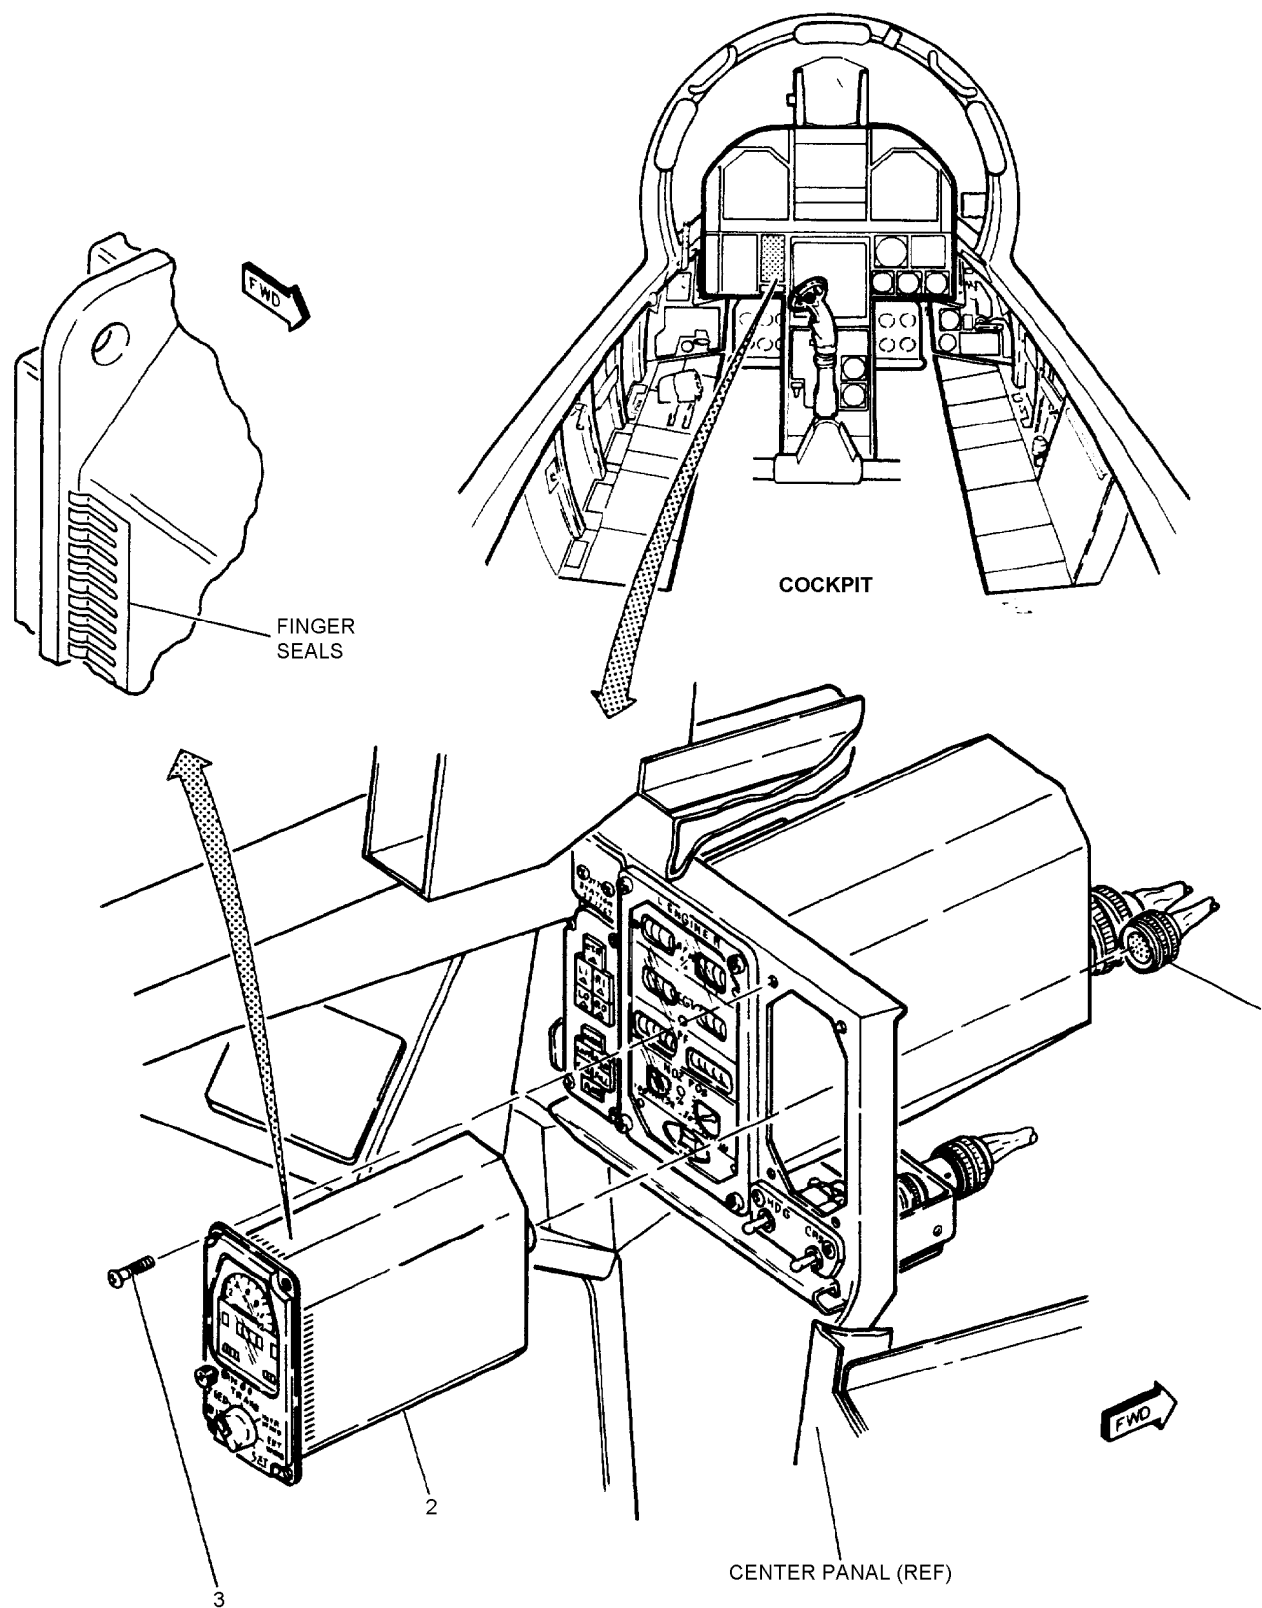

Figure 1. Fuel QTY Indicator (5A-H013) (Sheet 1)
b. Prepare mating surfaces of instrument panel and indicator (2) for electrical bond (A1-F18AC-LMM-000).
d. Connect connector (1, figure 1).
e. Install indicator (2) and screws (3).